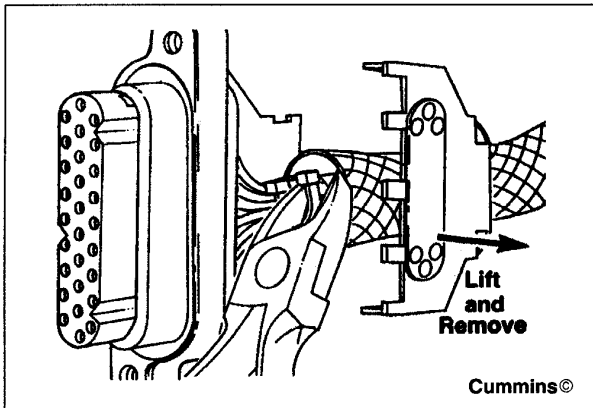

Figure 81 Cut Plastic Wire Ties Under Cover
2. Pull the locking tabs apart on the cover. Remove the cover from the connector. Cut the plastic wire ties under the cover (Figure 81).